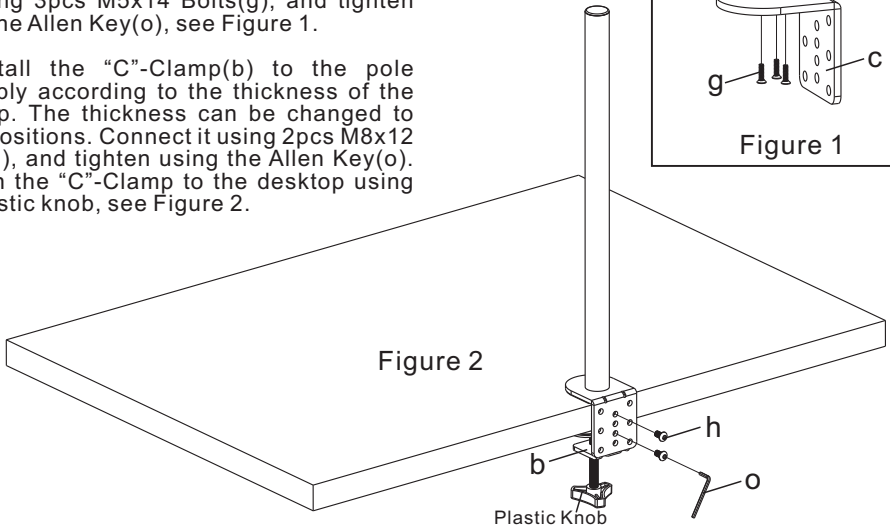

Figure 2
2. Install the "C"-Clamp(b) to the pole assembly according to the thickness of the desktop. The thickness can be changed to three positions. Connect it using 2pcs M8x12 Bolts(h), and tighten using the Allen Key(o). Tighten the "C"-Clamp to the desktop using the plastic knob, see Figure 2.